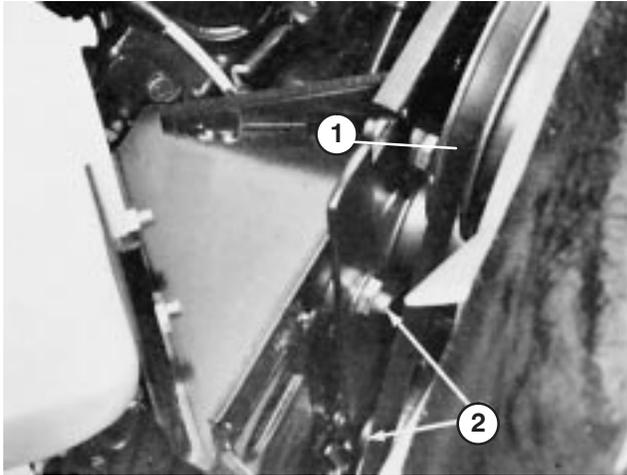

Figure 42
3. Remove two capscrews holding the transmission drive shaft coupler to the engine pulley (Fig. 42). Do not remove the drive shaft from the transmission.
2. Loosen idler lever bolts (Fig. 42). Put 10 lb. of force on the top of idler lever and tighten the bolts.
1. Open hood. Loosen two flange nuts securing idler pulley lever and move pulley away from belt (Fig. 42).